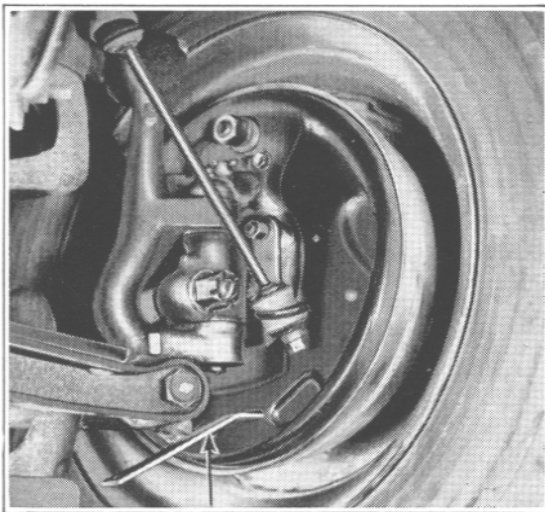

Figure 47
4. At each wheel, with a screw driver or suitable tool inserted through the slot in the brake backing plate, expand shoes against drum with adjusting screw, see Fig. 47, by moving outer end of tool toward center of backing plate until a heavy drag is noted when wheel is turned by hand.